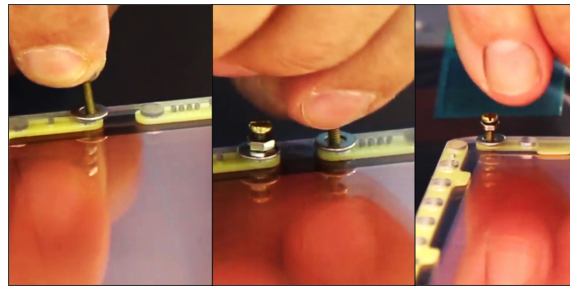

Figure 81: Attaching the cover to the GEM stack.
Step 5: Use the long M2 screws and washers in order to attach the Plexiglas cover to the stack. Insert the screws into the holes to catch the brass insert fixed in the 3 mm internal frames (Fig. 81). Put these screws on the edges of each piece of internal frame and in the corners of the trapezoid.